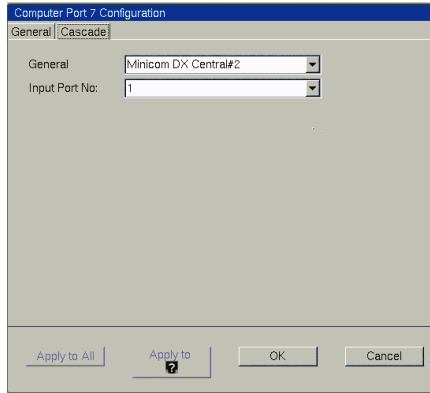

Figure 31 Cascade tab
3. Tick the Cascade box and click the Cascade tab. Figure 31 appears.